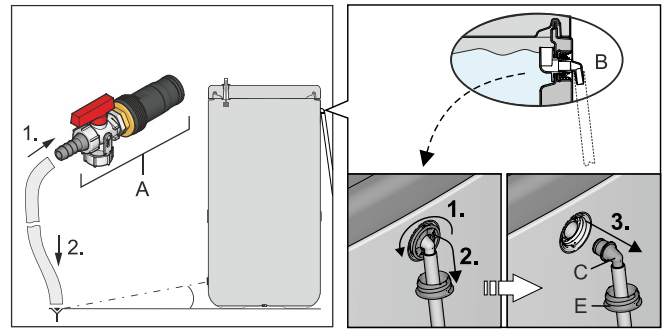
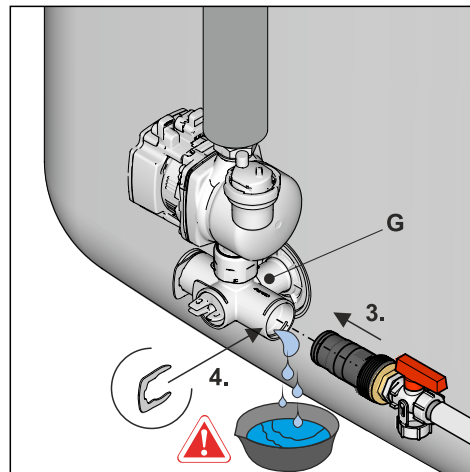

Fig. 9-1 Installing the drain hose; optional: Detaching the connecting piece from the safety overflow
Fig. 9-6 Installing the combined filling and draining filling connection in the connection bracket
- Connect the drain hose to the **combined filling and draining filling connection (combined filling and draining BA accessories)** (Fig. 9-1, item A) and to a waste water drainage point which is at least at ground level.
If no **combined filling and draining filling connection** is available, the connecting piece (Fig. 9-1, item C) can be detached from the safety overflow (item B) and used.
Tab. 9-1 Legend for Fig. 9-1 to Fig. 9-6
- 1 Adjust the valve insert on the connection bracket so that the path to the blind plug is blocked off (Fig. 9-6).
- 2 Place a suitable collecting tray and remove the blind plug from the connection bracket (Fig. 9-6).
- 3 Insert the **combined filling and draining filling connection** in the connection bracket and secure with the holding clamp (Fig. 9-6).